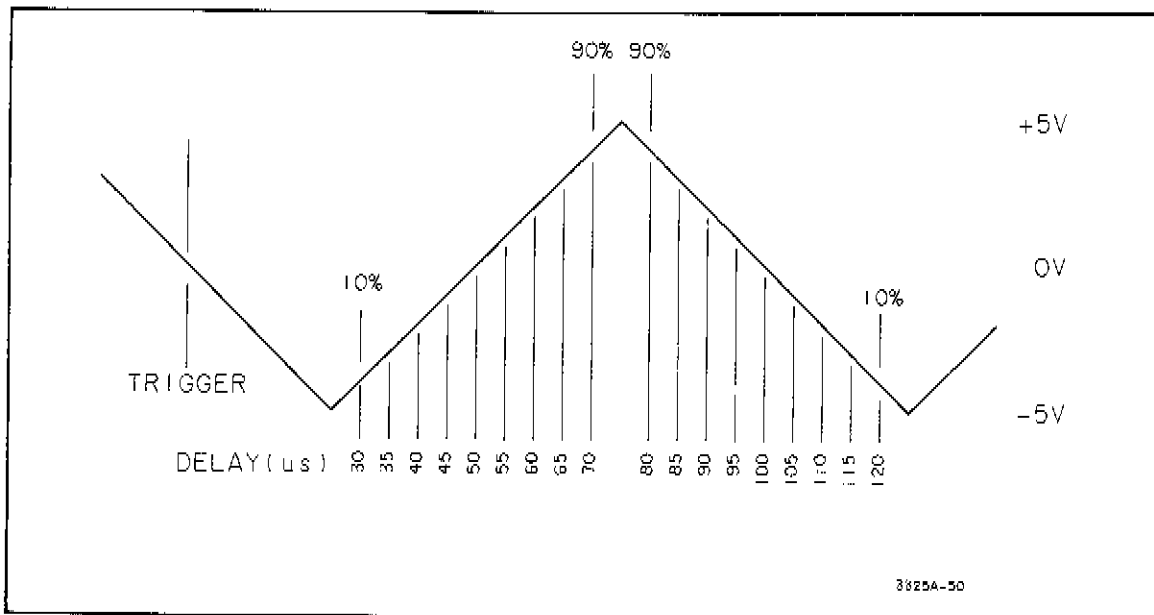

Figure 4-11. Triangle Linearity Test.
d. Set the digital voltmeter delay to .00003 (seconds). Record the digital voltmeter reading on the Performance Test Record under "Positive Slope Measurement, (10%)  $y_1$ ". This is the 10% point on the positive slope of the triangle. See Figure 4-11.